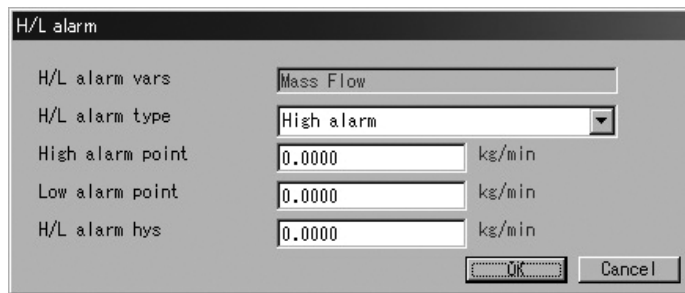

Fig.43
- ⑧ After clicking on "OK" button, the message box for filling in fields of items appears again. Click on "Cancel" button to hide the message box for filling in fields of items. To abort the setup process, click on "Cancel" button in the course of steps ② through ⑥ .
- ① Click on "Setup (S)" at top-level menu of the screen, select "H/L alarm" from "Conf. output" drop-down list, and click on again.
- ② A message box as shown in Fig. 43 appears. H/L alarm related items are set up here.